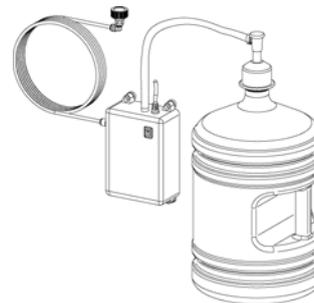

Fig. 9
**3.3.2 Stand-alone pump set (fig. 9)**